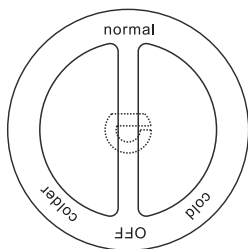

Figure 1 – Temperature thermostat knob.
**Note:** Figure 1 above is for general reference only and your physical appliance may differ.
After you switch on your beverage chiller for the first time, use the Temperature Control knob (Figure 1) located in the rear of your beverage chiller cavity, to set your preferred temperature. "Cold" is the warmest setting. "Colder" is the coldest setting. "Off" will stop the appliance from operating. The beverage chiller temperature range is 1° C – 10° C (33° F – 50° F).